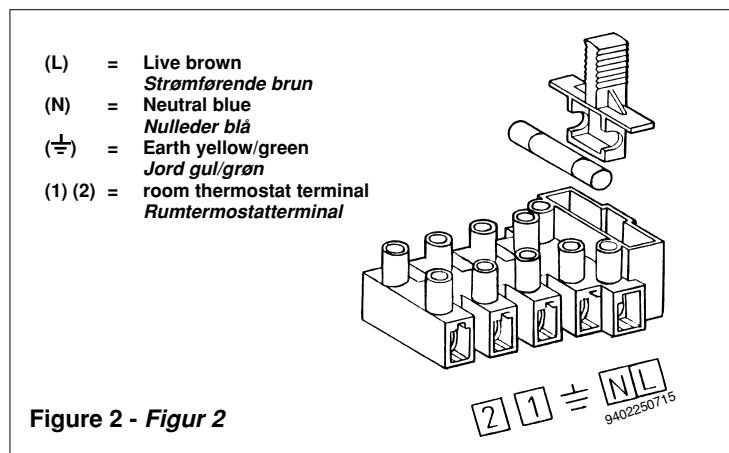

Figure 2 - Figur 2
- open the terminal block (Figure 2) as described in the previous section;
- remove the jumper between terminals (1) and (2);
- åbn for klemrækken (fig. 2) som beskrevet i det foregående kapitel;
- fjern lusen mellem klemme (1) og (2);